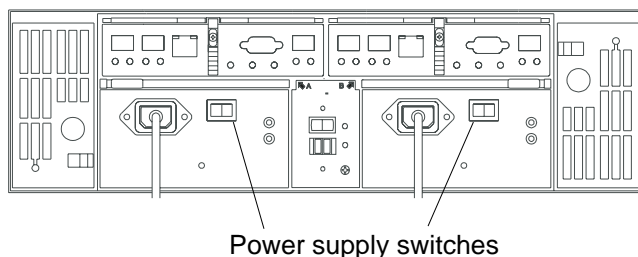

Figure 3-1 Turning the Power On and Off
To turn on the enclosure after a normal shutdown (as described in “Turning the Power Off” on page 34), turn on both power switches on the rear of the enclosure (see Figure 3-1) or the main circuit breaker, whichever is applicable. You must turn on both power supply switches to take advantage of the redundant power supplies.
1. Turn off both power switches (see Figure 3-1 on page 30).
1. After the emergency situation is over or power is restored to the site, turn off all power switches (see Figure 3-1 on page 30).
3. Turn on the power to the enclosures (see Figure 3-1 on page 30).
4. Turn off both power switches on the rear of the enclosure or the main circuit breaker, whichever is applicable (see Figure 3-1 on page 30).